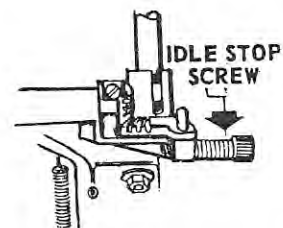

Fig. G76—Slow idle speed can be adjusted by turning the stop screw located on speed control vertical shaft gear as shown.
CARBURETOR. A float type carburetor is used. Refer to Fig. G75. Normal initial setting for low speed mixture needle (IN) is 1 1/2 turns open. Initial setting for high speed mixture adjustment needle (HN) is 3/4-turn open. Final adjustment must be made when motor is in operation, by turning knobs on control panel. Clockwise rotation of both needles leans the mixture. Low idle speed can be adjusted by turning the screw on speed control gear shown in Fig. G76.